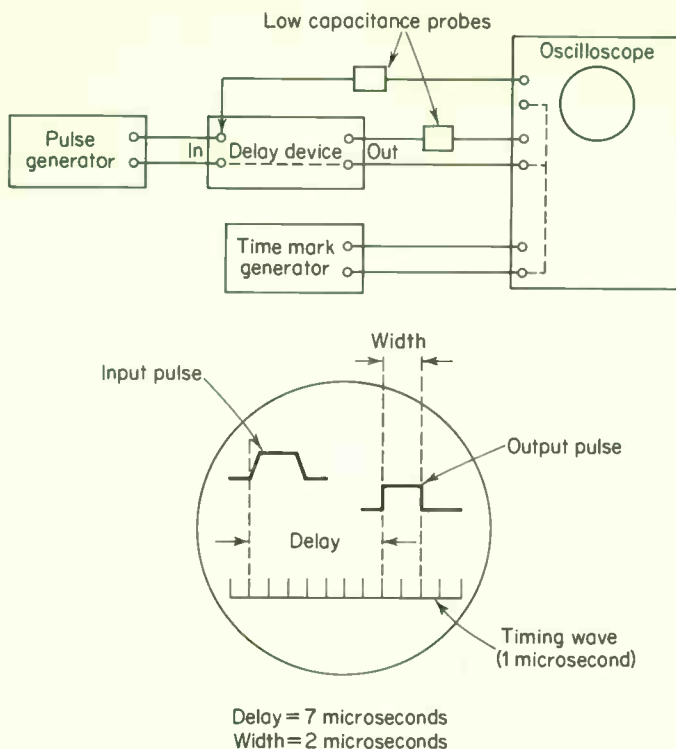

Fig. 12-4. Measurement of pulse delay.
1. Connect the equipment as shown in Fig. 12-4.
5. If the oscilloscope is a multiple-trace instrument, set the sweep frequency and sync controls for a single, stationary input pulse and output pulse as shown in Fig. 12-4.